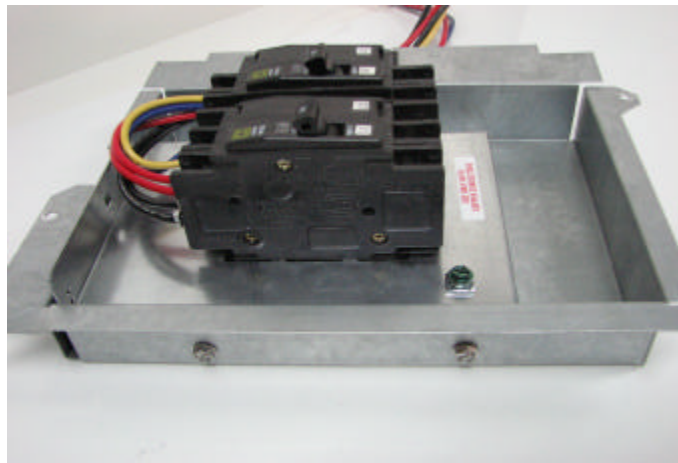

Figure 4
8. **For single phase WGO kits only**, mount the breaker (or terminal block) to the rear mounting plate using the 4 blunt tip screws included in the unit literature bag. The screw heads should all be located on the outside of the mounting plate as shown in Figure 4.